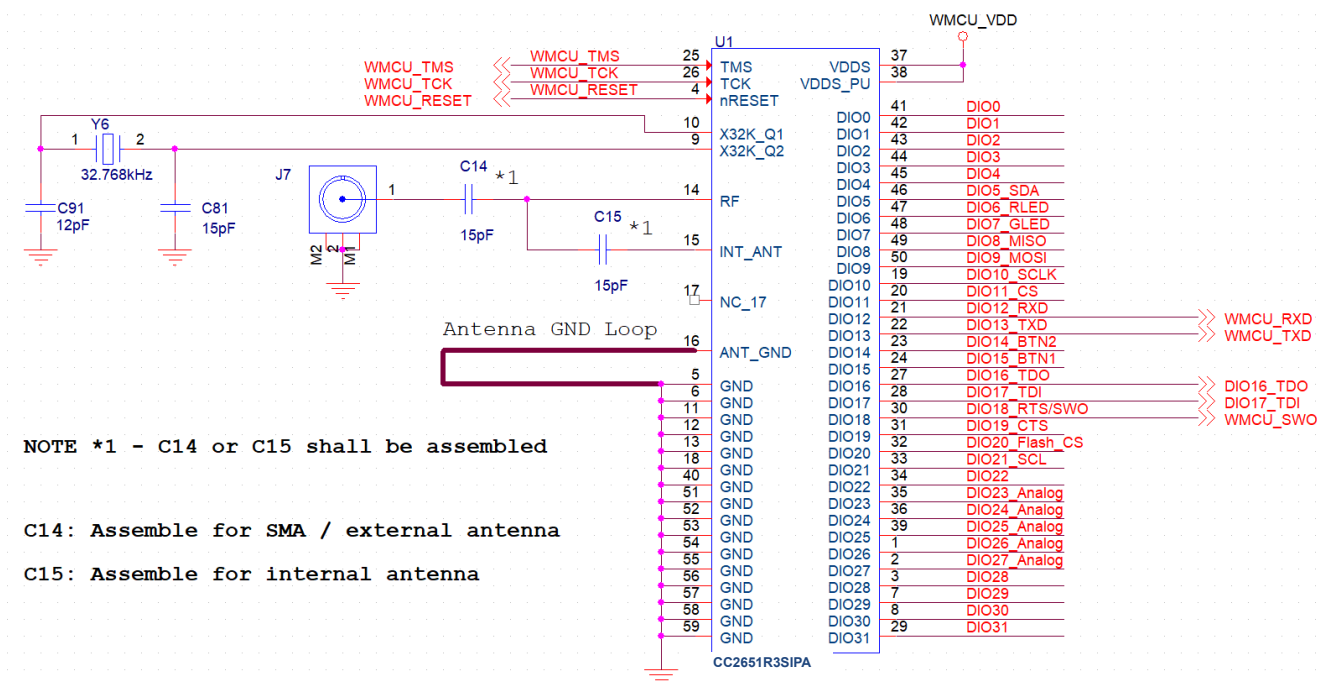
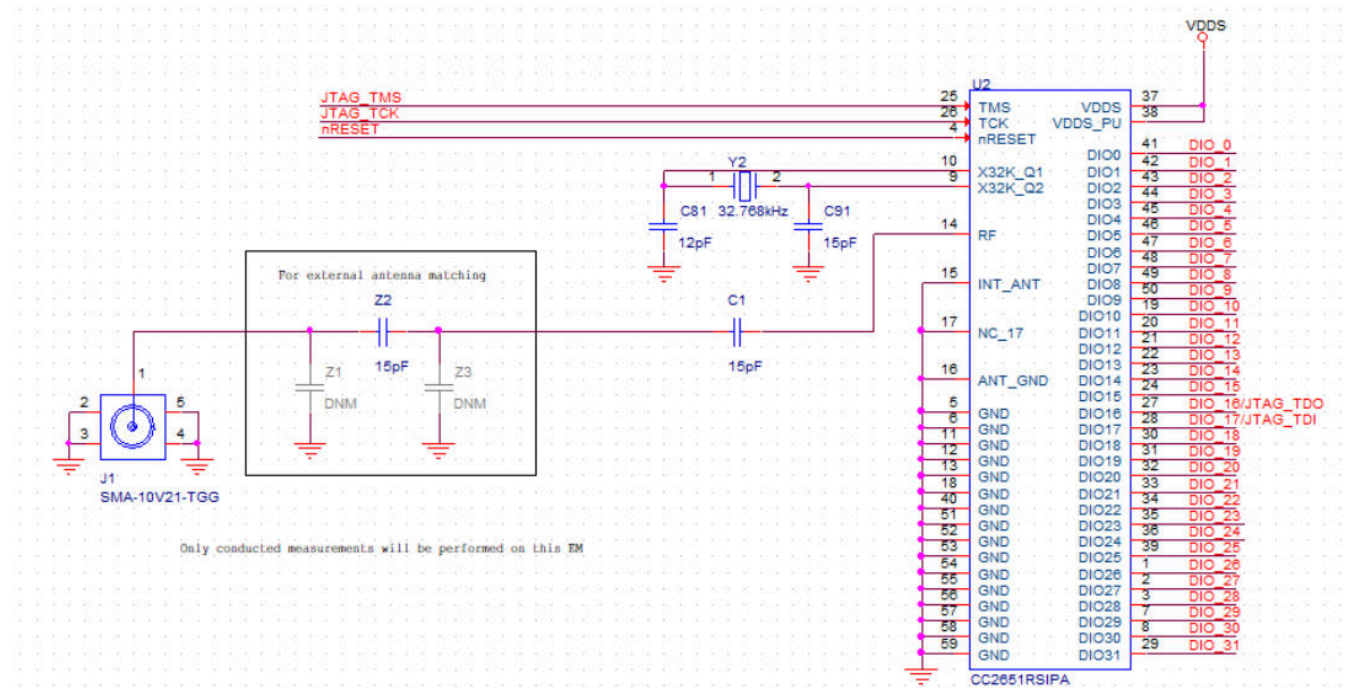

Figure 10-1. CC2651R3SIPA Typical Application Schematic
Figure 10-2. CC2651R3SIPA Typical Application Schematic for External Antenna Connection
Figure 10-1 shows the typical application schematic using the CC2651R3SIPA module. Note that C15 should be assembled when using the integrated antenna option within the module and when the layout design guidelines in Section 10.4.2 are strictly followed. If the layout guidelines described in Section 10.4.2 cannot be followed, it is recommended to implement the alternate application circuit schematic in Section 10.2 and follow the alternate layout guidelines in Section 10.4.4.
If using the external antenna option, C14 should be assembled. In addition, Pin 15 of the module should be connected to GND as shown in Figure 10-2. For the full reference schematic, download the LP-CC2651R3SIPA Design Files.
- π or L matching and tuning may be required between RF out path, pin 14, and the external connection as shown in Figure 10-2.
Table 10-1 provides the bill of materials for a typical application using the CC2651R3SIPA module with the internal antenna as shown in Figure 10-1, while Table 10-2 provides the bill of materials for a typical application using the CC2651R3SIPA module with an external antenna as shown in Figure 10-2
In order to meet the module power-on-reset requirements, VDDS (Pin 37) and VDDS_PU (Pin 38) should be connected together. If the reset signal is not based upon a power-on-reset and is derived from an external MCU, then VDDS_PU (Pin 38) should be No Connect (NC). Please refer to Figure 10-1 for the recommended circuit implementation.